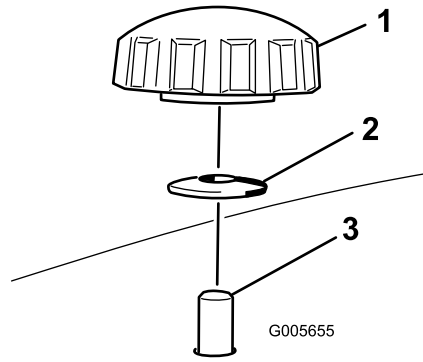

Figure 2
2. Install the left baffle into the deck securing the studs on the baffle from the top of the mower using 2 knobs and curved washers (cupped side facing the mower) as shown in Figure 1 and Figure 2.
- Slide the right baffle through the discharge opening and secure it using 2 knobs and curved washers (cupped side facing the mower) as shown in Figure 1 and Figure 2.